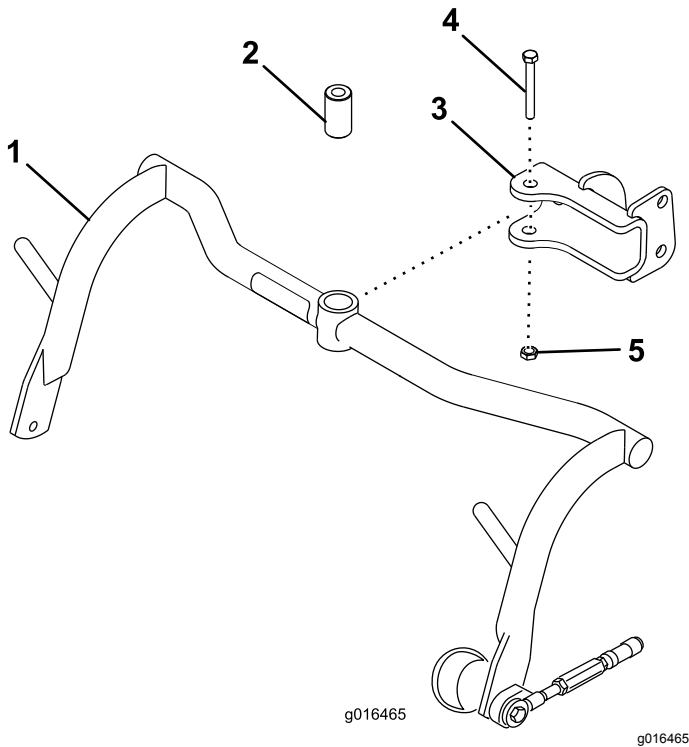

Figure 8
1. Mount a carrier frame assembly to each clevis with a spacer, bolt (1/2 x 3-1/4 inch), and locknut (1/2 inch); refer to Figure 8. Torque to 91 to 113 N·m (67 to 83 ft/lb).